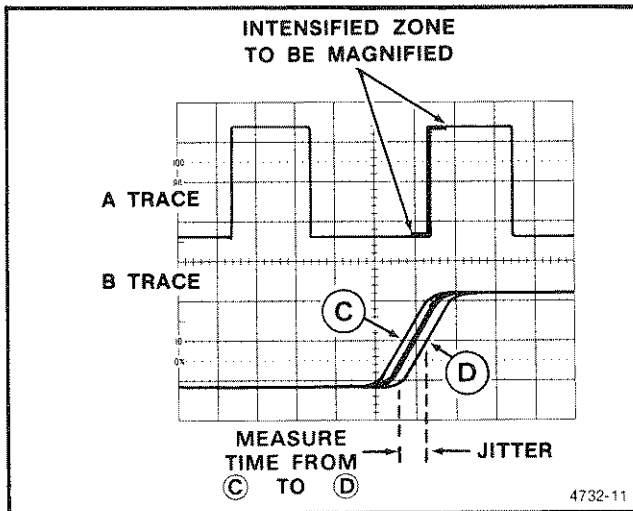

Figure 2-17. Pulse jitter.
2. Referring to Figure 2-17, measure the difference between Point C and Point D in divisions and calculate the pulse jitter time using the following formula: